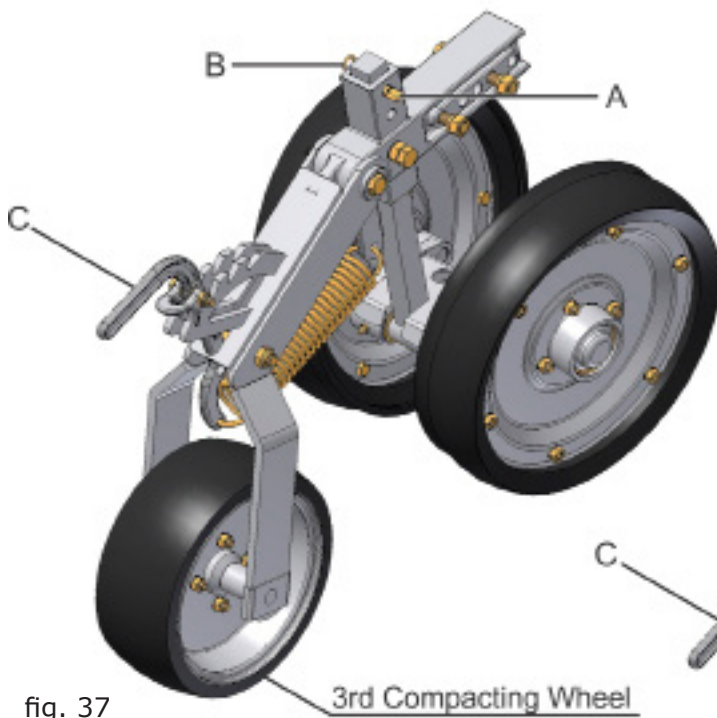

fig. 37
In each planting line adjustment must be made in the regulating pin (A) (fig. 37/38) in the following manner:
- 2- Remove the fastener (B) of the regulating pin (A);
To adjust the pressure of the compacting wheel, adjust the pressure of the spring moving the lever (C) (fig. 37/38). The greater the pressure of the spring, the greater the pressure exerted on the seed.
Note that the regulating pin (A) (fig. 37/38) is in the same position in all the planting lines.